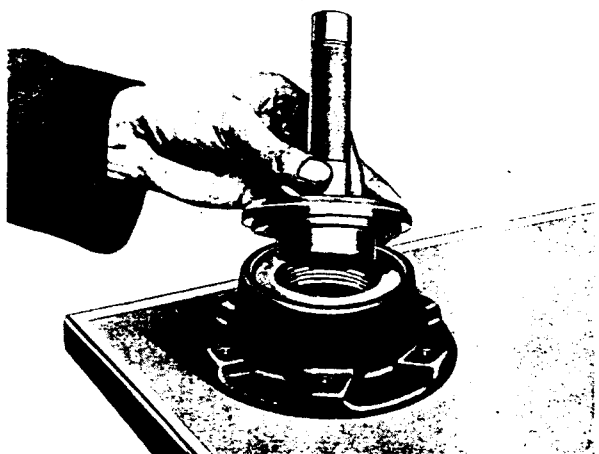

FIG. 8
2. Press or tap in seal (6), lip inwards, using Service Tool FT.29, Fig. 8.